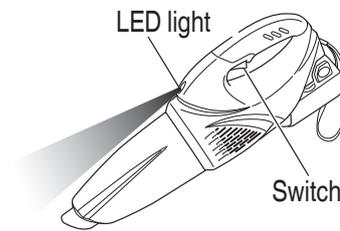

Fig. 16
4. Switch on the appliance (Fig. 16)